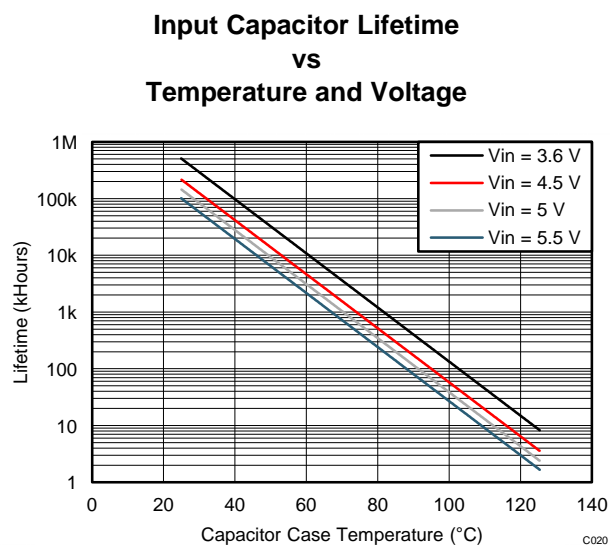
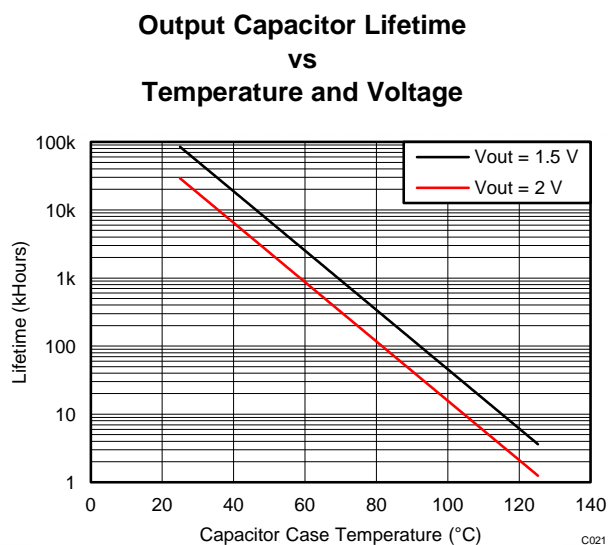

Figure 48. Input Capacitor Lifetime
Figure 49. Output Capacitor Lifetime
Failures caused by systematic degradation are described by the Arrhenius model. The most critical parameter (IR) is the Insulation Resistance (i.e. leakage current). The drop of IR below a lower limit (e.g. 1 MΩ) is used as the failure criterion. See Figure 48 and Figure 49. Note that the wear-out mechanisms occurring in the MLCC capacitors are not reversible but cumulative over time.